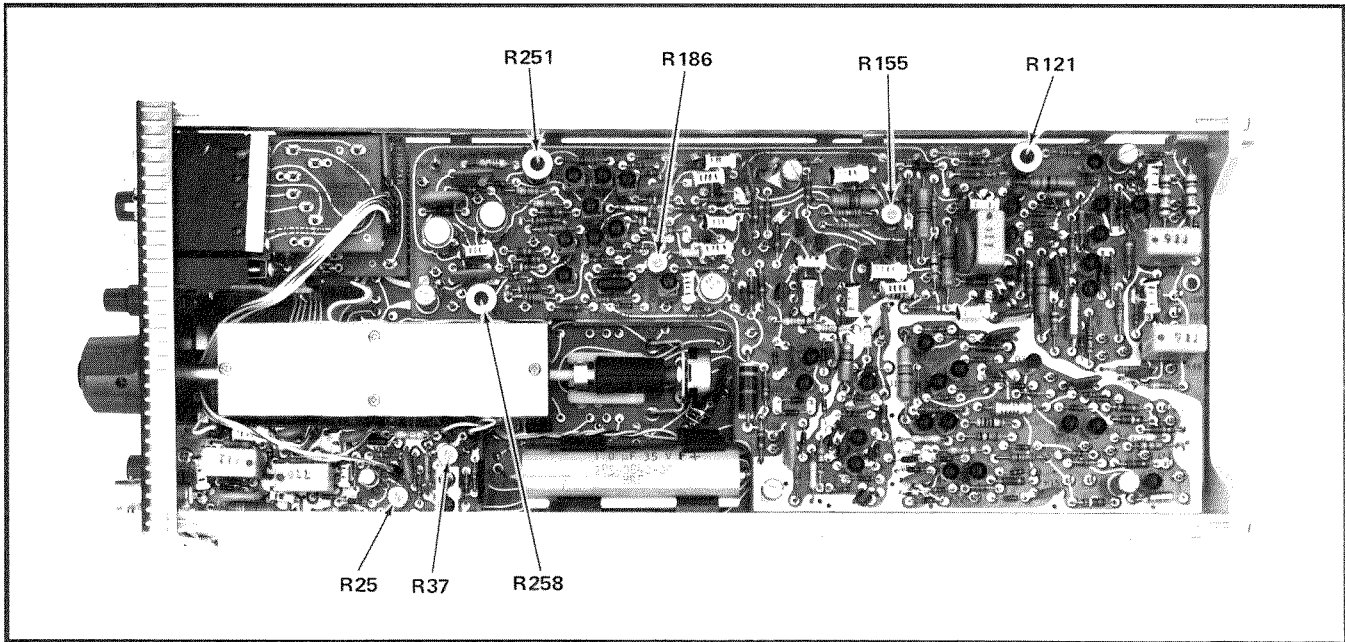

Fig. 5-1. Location of adjustments on Trigger Board.
1. Adjust Upper Positive Slope P-P AUTO Level (R251) ①
c. ADJUST—R251 for a stable display. See Fig. 5-1 for location of adjustment.
2. Adjust Lower Positive Slope P-P AUTO Level (R258) ①
b. ADJUST—R258 for a stable display. Refer to Fig. 5-1 for location of adjustment.
3. Adjust Negative Slope P-P AUTO Level (R155) ①
b. ADJUST—R155 for a stable display. Refer to Fig. 5-1 for location of adjustment. Check for stable triggering over the full 360° range of the LEVEL/SLOPE control.